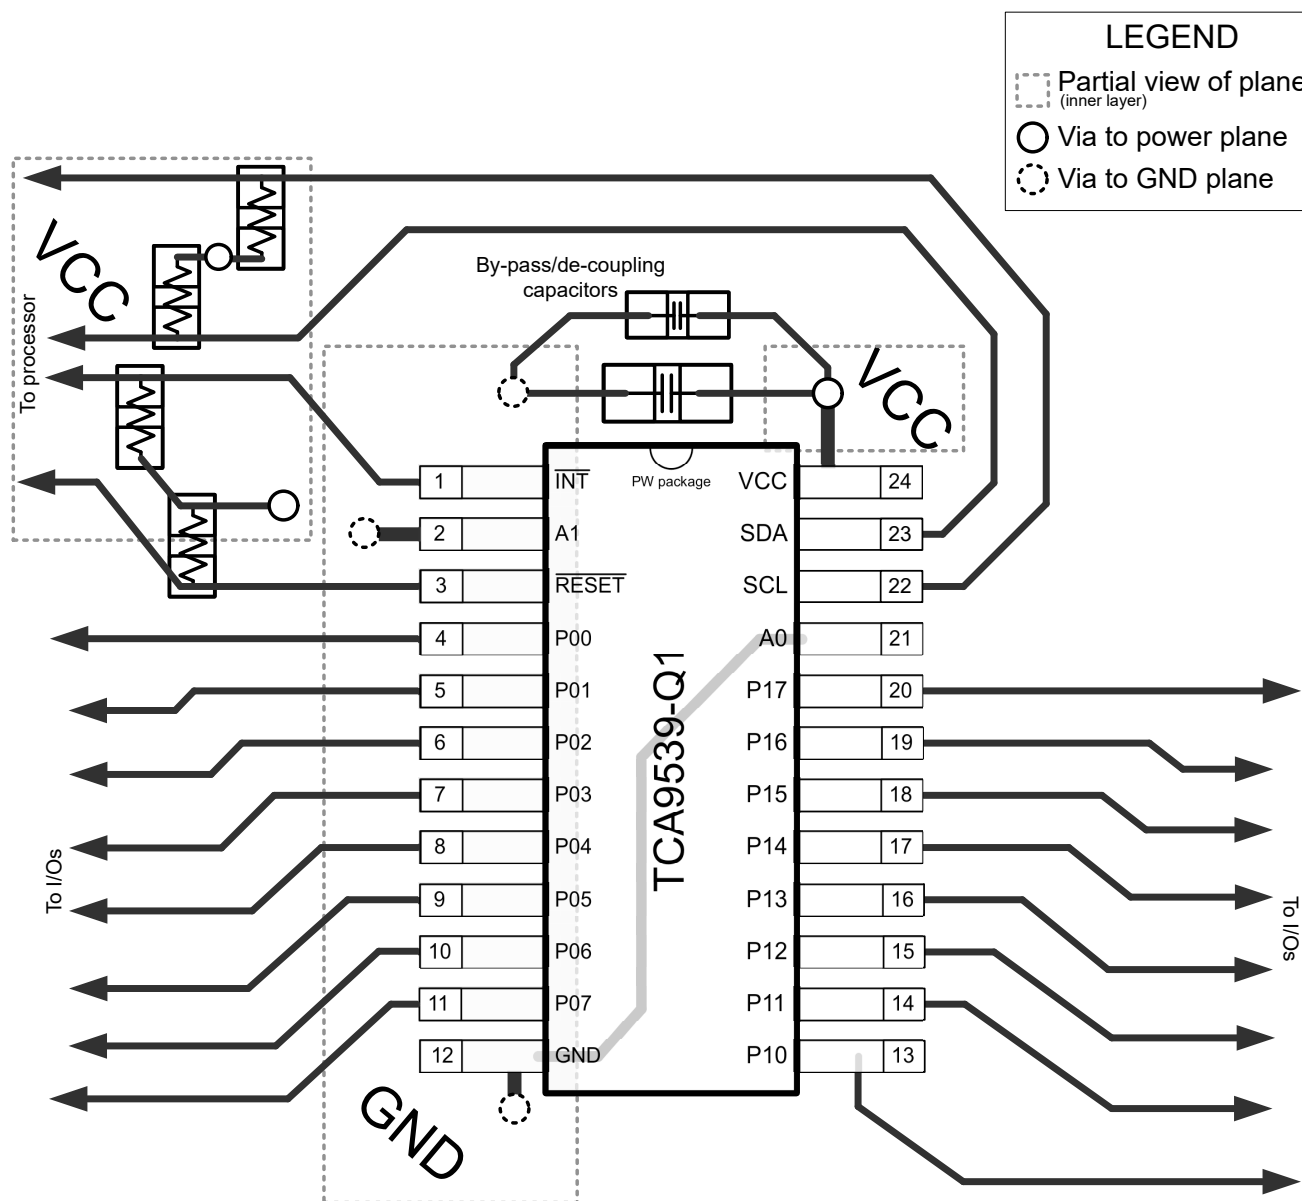

图 10-1. TCA9539-Q1 Layout
In all PCB layouts, it is a best practice to avoid right angles in signal traces, to fan out signal traces away from each other upon leaving the vicinity of an integrated circuit (IC), and to use thicker trace widths to carry higher amounts of current that commonly pass through power and ground traces. By-pass and de-coupling capacitors are commonly used to control the voltage on the V_{CC} pin, using a larger capacitor to provide additional power in the event of a short power supply glitch and a smaller capacitor to filter out high-frequency ripple. These capacitors must be placed as close to the TCA9539-Q1 as possible. These best practices are shown in Figure 10-1.
For the layout example provided in Figure 10-1, it would be possible to fabricate a PCB with only 2 layers by using the top layer for signal routing and the bottom layer as a split plane for power (V_{CC}) and ground (GND). However, a 4 layer board is preferable for boards with higher density signal routing. On a 4 layer PCB, it is common to route signals on the top and bottom layer, dedicate one internal layer to a ground plane, and dedicate the other internal layer to a power plane. In a board layout using planes or split planes for power and ground, vias are placed directly next to the surface mount component pad which must attach to V_{CC} or GND and the via is connected electrically to the internal layer or the other side of the board. Vias are also used when a signal trace needs to be routed to the opposite side of the board, but this technique is not demonstrated in Figure 10-1.